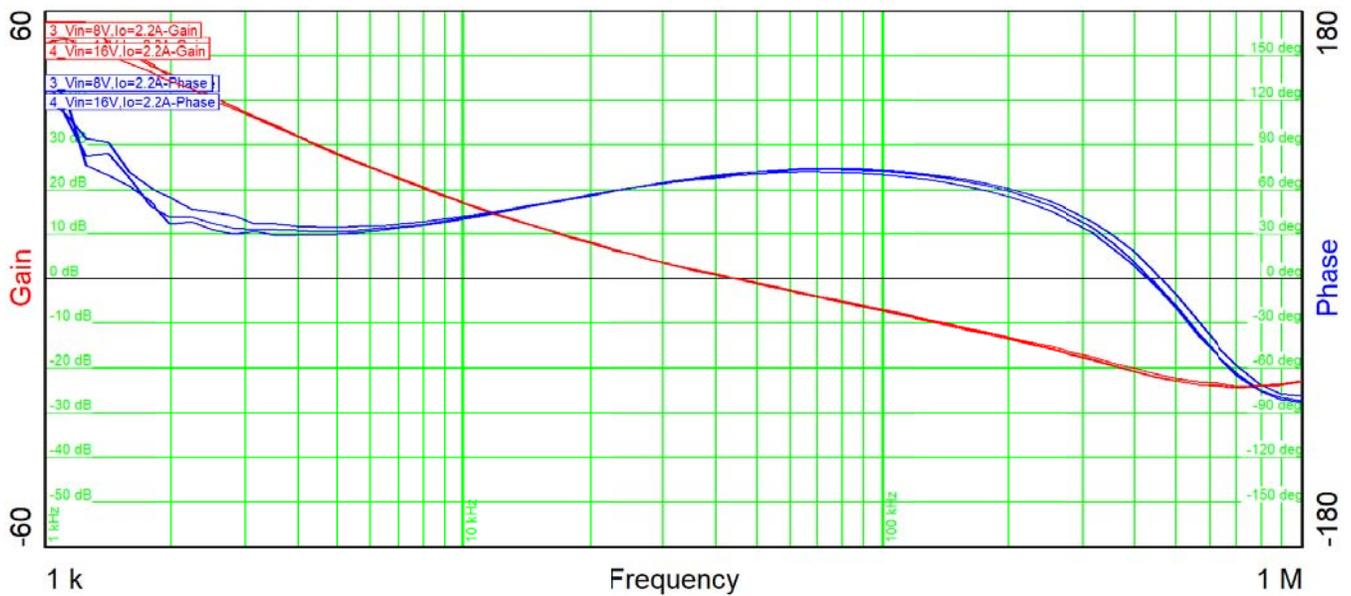
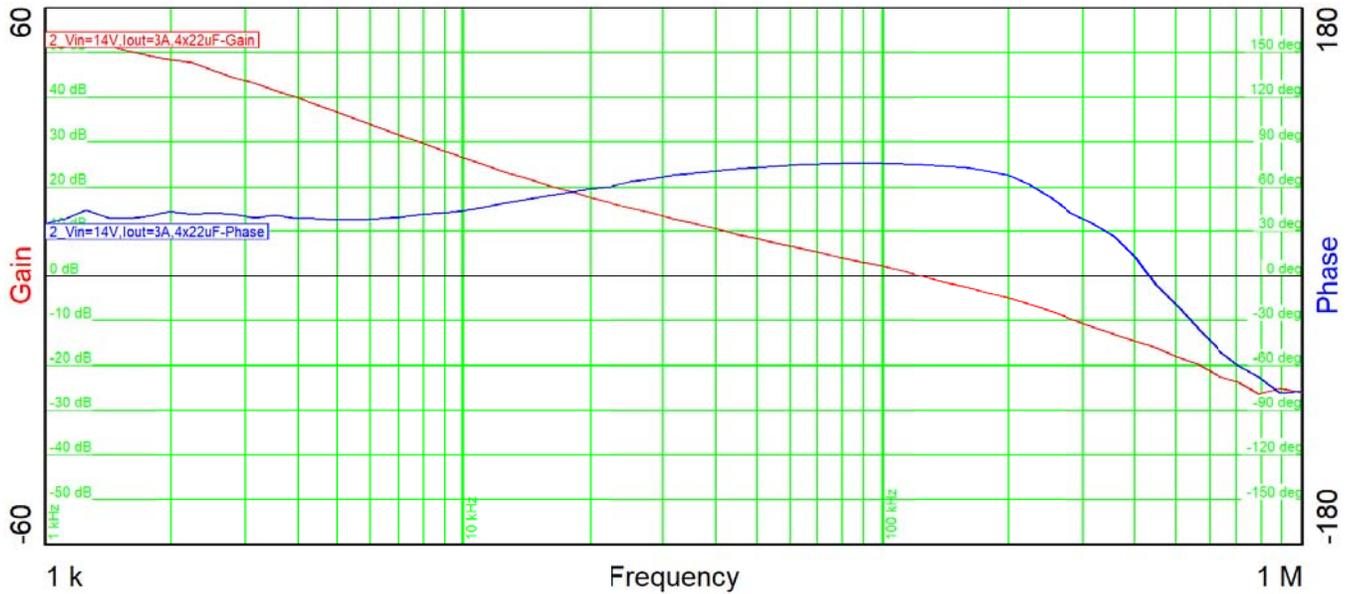

Figure 13: Bode Plot Measurement of 3V3_BUCK0 at 2.2 A
Figure 16: Bode Plot Measurement of 1V03_BUCK at 3 A
Figure 13 through Figure 16 depicts the small signal analysis of the power rails at different input voltages:
- Figure 13: Bode Plot Measurement of 3V3_BUCK0 at 2.2 A
- Figure 16: Bode Plot Measurement of 1V03_BUCK at 3 A